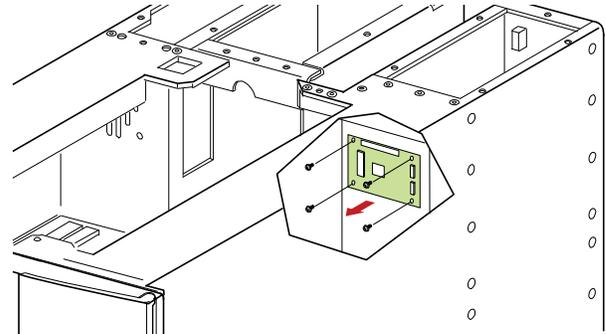

Figure 3. Remove the Screws
2. Remove the **four SEMS screws** securing the PCB to the chassis (Figure 3), and set the old PCB aside.